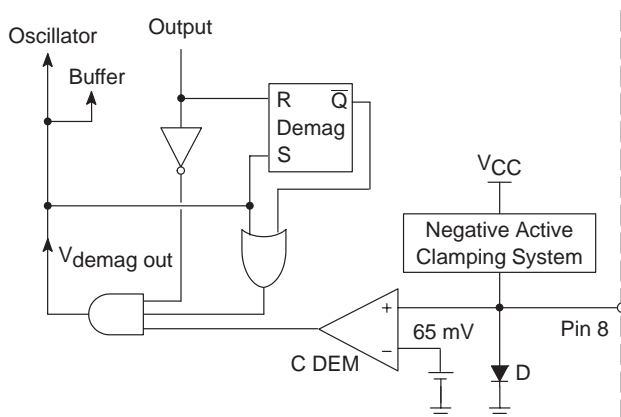

### Figure 31. Demagnetization Detection
- equal to zero for the dead-time with generally a ringing (refer to Figure 31).